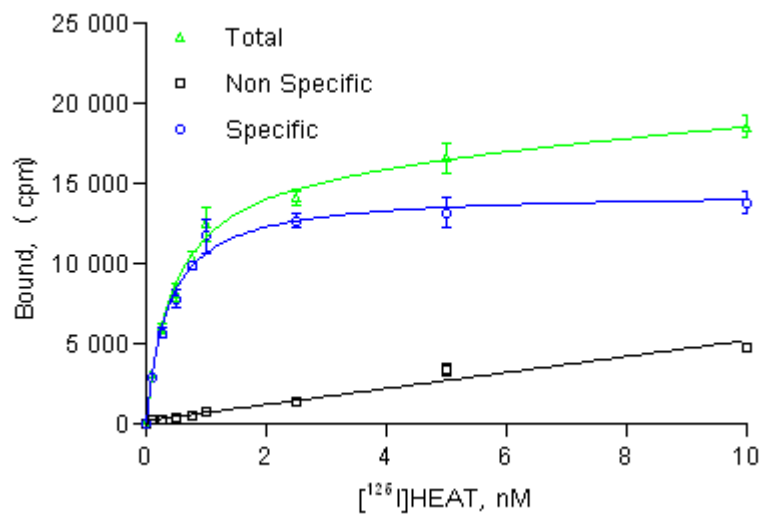

Figure 3: Saturation Binding Assay Curve (Filtration)
2. Assembly on ice (in 96 Deep well plate)	25 µL of assay buffer or of unlabeled ligand (HEAT, 2 µM final) for determination of non specific binding 25 µL of radioligand at increasing concentrations (see figure 3) 150 µL of diluted membranes